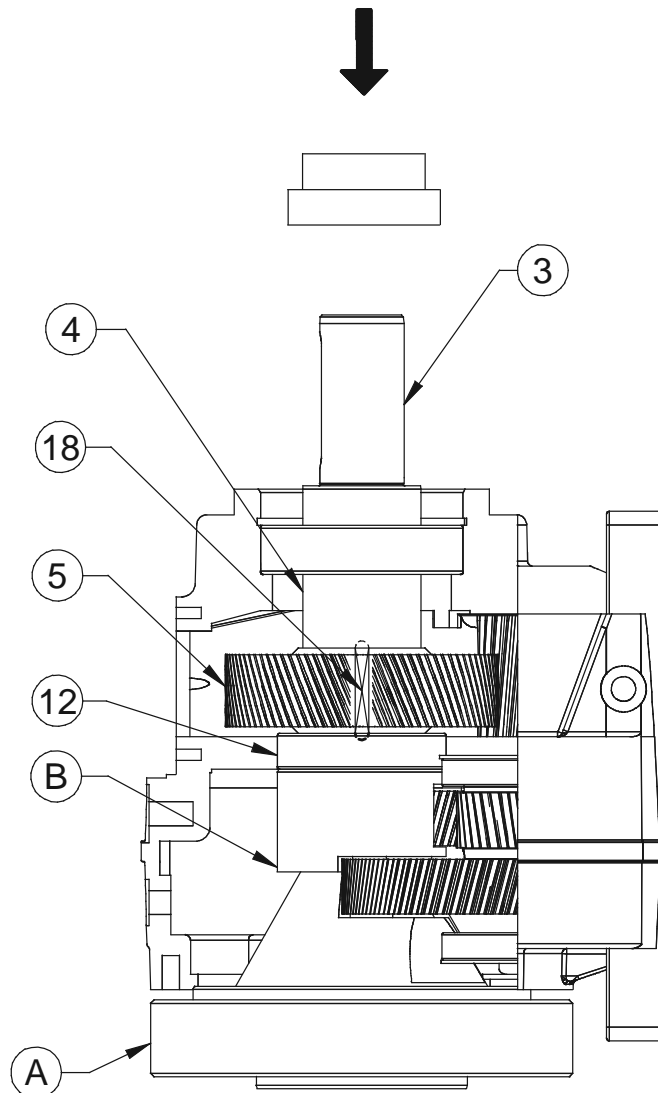

FIGURE 7.3B
7.3.1. Attach the tooling listed in Figure 7.3B to the gearhead, and then lift gear unit and turn through 90° and place on the press so that the dummy shaft is pointing upwards (see Figure 7.3B).